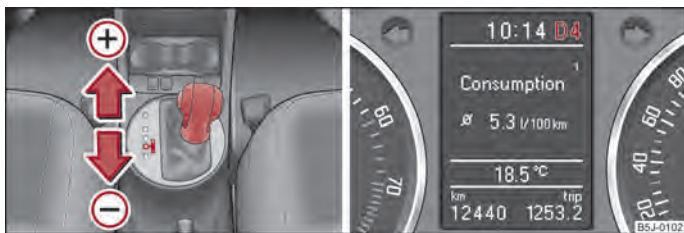

Fig. 85 Selector lever: manual shifting/large information display: Manual shifting of gears
The selector lever position you have engaged is indicated in the information display of the instrument cluster together with the engaged gear ⇒ fig. 85 on the right.
- One-touch forward of the selector lever (in the Tiptronic position) ⇒ fig. 85 ⊕.